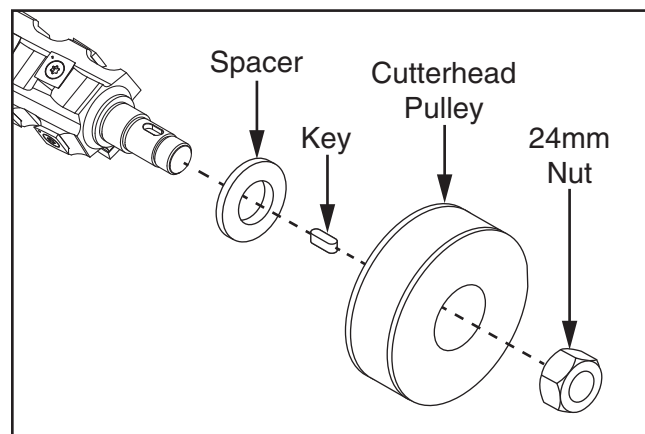

Figure 13. Cutterhead pulley assembly.
30. Remove 24mm hex nut from cutterhead pulley (see **Figure 13**).
31. Remove cutterhead pulley, key, and spacer (see **Figure 13**).